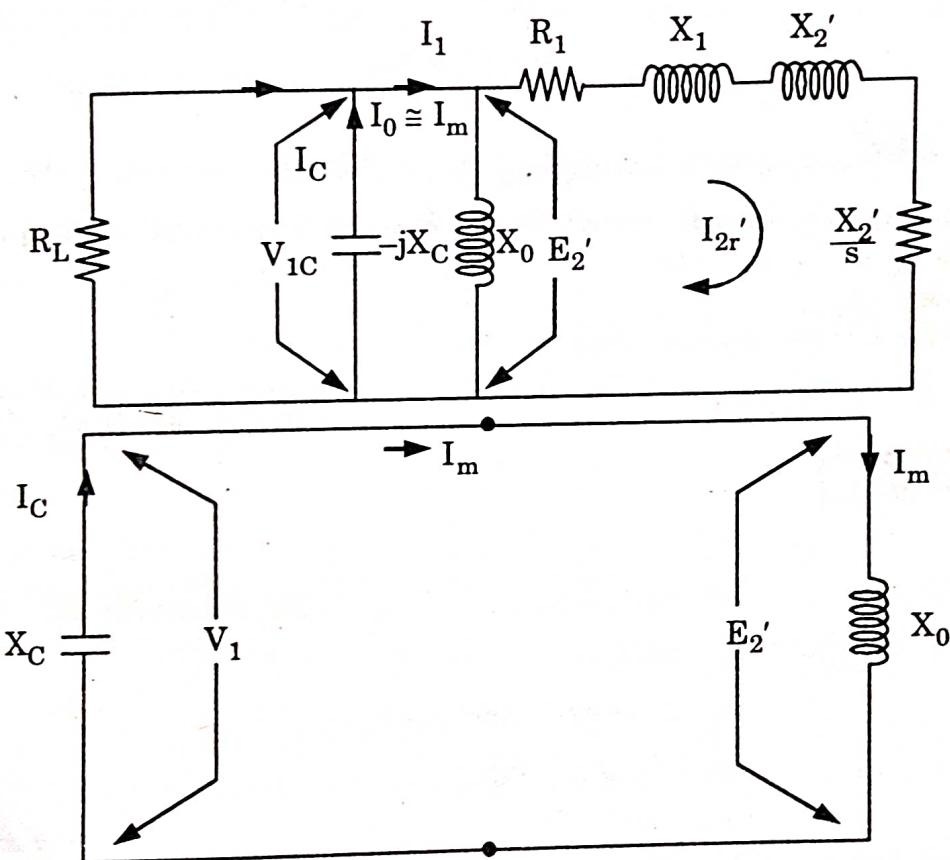

Fig. 3.25.2.
8. The equivalent circuit on per phase basis is as shown in the Fig. 3.25.2.